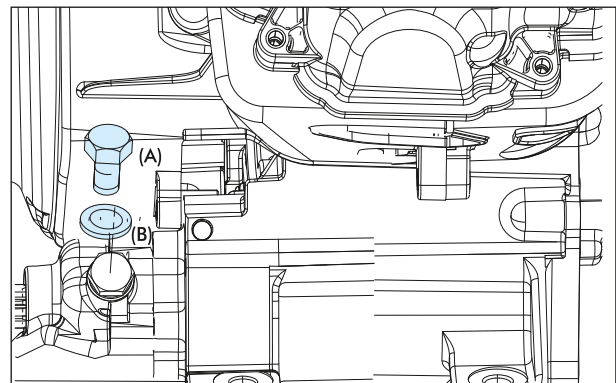

Fig. 2.15
- Clean the area around the Plug TDC oil drain and filling bolt (A) on the top of cover differential, then loosen and remove along with sealing washer Oil drain & filling bolt(B).(Fig. 2.15)